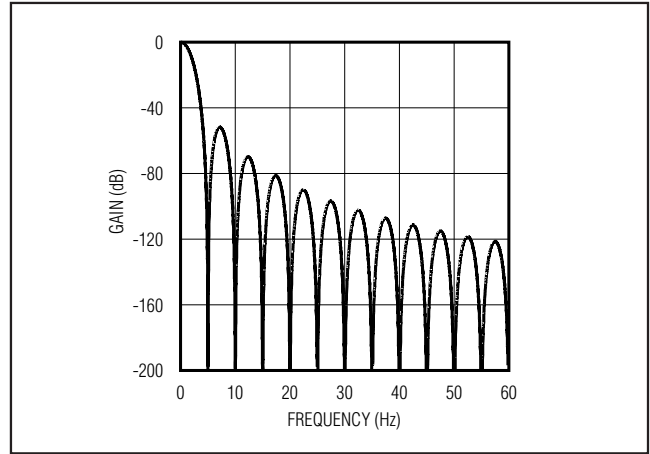

Figure 2. Frequency Response of the SINC4 Filter (Notch at 60Hz)
- Note 7:** Measured at DC by changing the power-supply voltage from 2.7V to 5.25V and measuring the effect on the conversion error with external reference. PSRR at 50Hz and 60Hz exceeds 120dB with filter notches at 50Hz and 60Hz (Figure 2).
Figure 2 shows the filter frequency response. The SINC4 characteristic  $-3dB$  cutoff frequency is 0.228 times the first-notch frequency (5Hz).